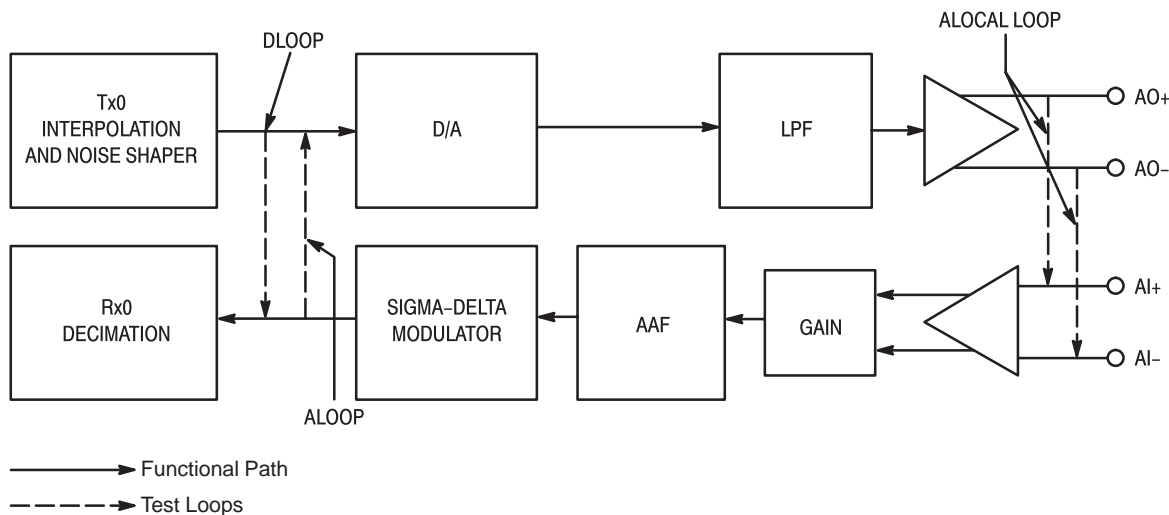

Figure 4. Digital and Analog Loopback Features
ALOOP (R/W, 0): This bit controls the remote loopback function at the analog/digital interface. Setting this bit to 1 will force the single bit modulated output from Rx in the codec to loopback into the single bit input of the D/A. See Figure 4.
DLOOP (R/W, 0): Setting this bit to 1 will force a digital loopback in the codec. This occurs at a point between the output of digital interpolator filter and the input of the digital decimator filter. See Figure 4.
ALOCAL LOOP (R/W, 0): As opposed to the ALOOP bit of this register, ALOCAL LOOP closes a local loopback at the analog interface. When this bit is set active (1), the analog output signal on pins AO0+ and AO0- is fed back into the input amplifier stage on pins AI0+ and AI0-. See Figure 4.